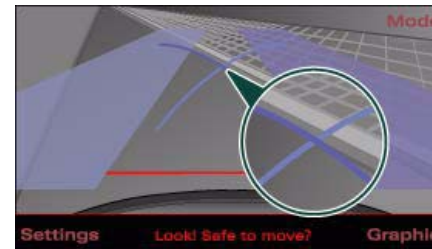

Fig. 152 MMI display: Blue marking touches edge of pavement
- Reverse into the parking space. If you are *not* parking next to obstacles ⇒ *page 141* the dark blue marking ④ should touch the kerb ⇒ *page 137*, fig. 152. Stop your vehicle.
- Continue to reverse into the parking space until the vehicle is standing parallel to the kerb. When reversing you must also keep a close watch on the front end of the vehicle ⇒ ①.
The light blue ③ and dark blue ④ curves show you when to turn the steering wheel in the other direction, i.e. when the curve touches the kerb. ⇒ *page 137*, fig. 152.
fig. 152. You can use the control buttons to switch between the Rear View camera and Graphic display at any time as desired. The settings selected on the sound system or MMI remain stored.
You also have to steer in the opposite direction a lot earlier. This means that the blue curve ⇒ page 137, fig. 152 must not touch the kerb - make sure there is a sufficient distance to the kerb ⇒ ⚠.